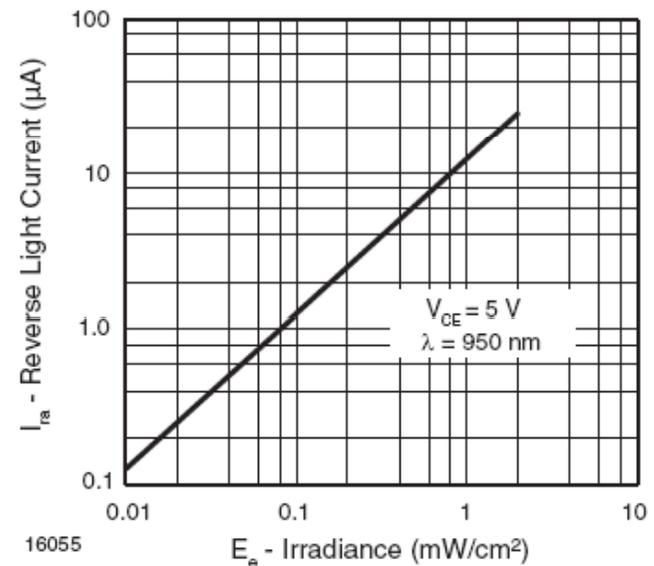

Fig. 3 - Reverse Light Current vs. Irradiance
16. Figure 3–71 is a curve of reverse voltage versus capacitance for a certain varactor. Determine the change in capacitance if V_R varies from 5 V to 20 V.
▶ **FIGURE 3–71**
20. The LED in Figure 3–73(a) has a light-producing characteristic as shown in part (b). Neglecting the forward voltage drop of the LED, determine the amount of radiant (light) power produced in mW.
21. Determine how to connect the seven-segment display in Figure 3–74 to display “5.” The maximum continuous forward current for each LED is 30 mA and a +5 V dc source is to be used.
▶ **FIGURE 3–74**
▶ **FIGURE 3–73**